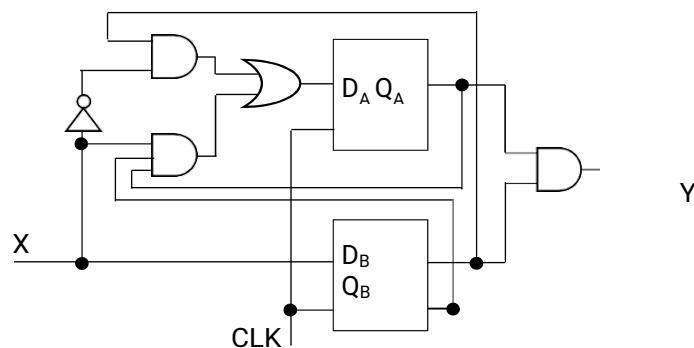

Fig. 2.2: Logic diagram of Moore machine for 2's complement computation
The logic diagram of 101 sequence detector is shown in Fig 2.2.
1. Make connections as per the logic diagram shown in Fig. 2.2.